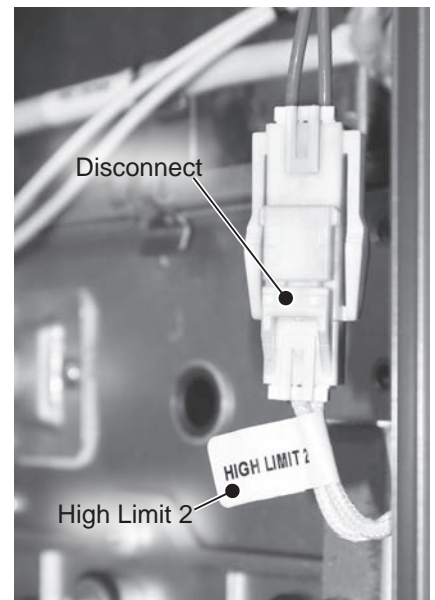

Figure 31 - Disconnecting high limit 2
**7** Locate the high limit 2 wiring harness and disconnect it. See Figure 31.